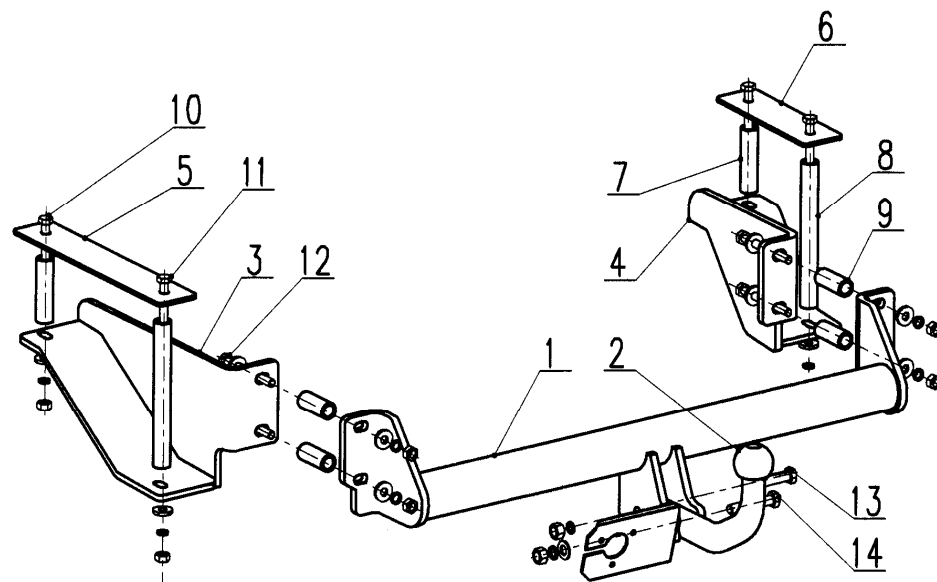

FIGURE 2- bumper cutting Opel Combo C
- Demount bumper and cut it- see fig.2.